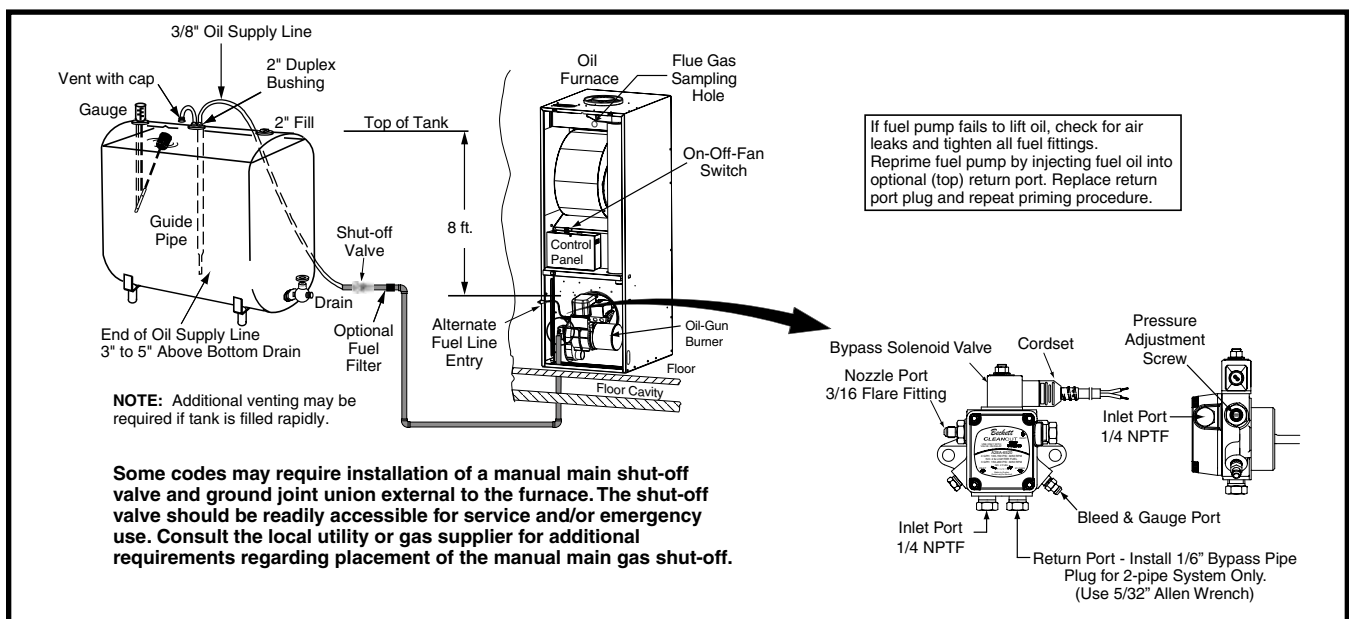

Figure 26. Typical Oil Piping for Above Ground (Single-Line) Supply
- A fuel or tank gauge is recommended for easy checking of the fuel level. Check the gauge reading with a dipstick. See Figure 26.
The One-Line System is highly recommended where vertical lift, from bottom of tank to pump, is less than 8 feet. See Figure 26. A single line hookup has the advantage of lower cost and quieter operation.
2. Install duplex bushing for two 3/8" lines in the top fitting of the tank. See Figure 26.